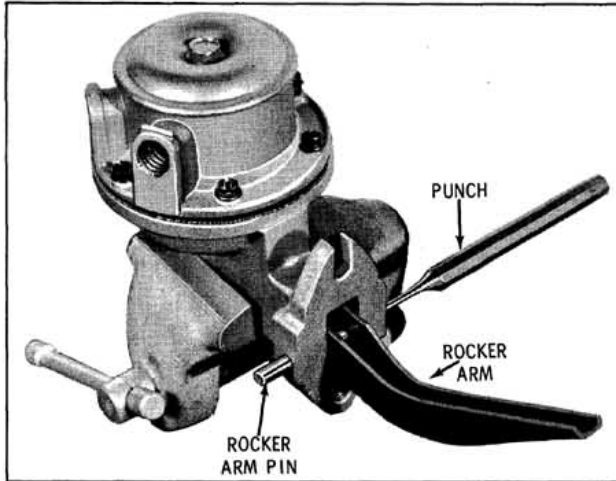

Fig. 3-135 Removing Rocker Arm Pin
3. Drive out the rocker arm pin using a small punch, then remove the arm. (Fig. 3-135)